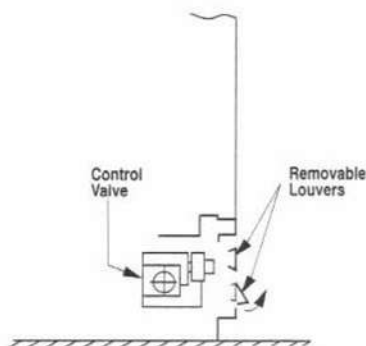

Figure 16
The gas control valve is located under the refractory shelf. If previously installed, remove the two (2) bottom louvers by unsnapping the bottom edge at each end and set aside (Figure 16). The control valve has a 3/8" NPT thread inlet port. Plan the connections accordingly.